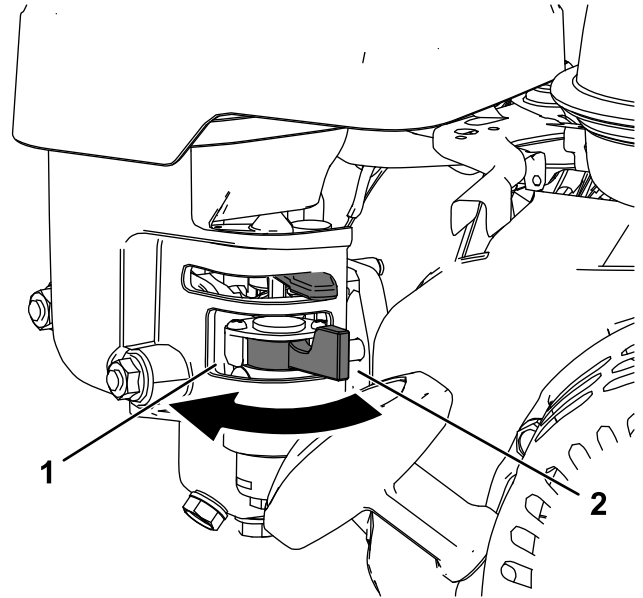

Figure 4
- To open the fuel valve, turn the fuel-shutoff valve handle toward the recoil starter handle (Figure 4).
- To shut the fuel valve, turn the fuel-shutoff valve handle away from the recoil starter handle (Figure 4).